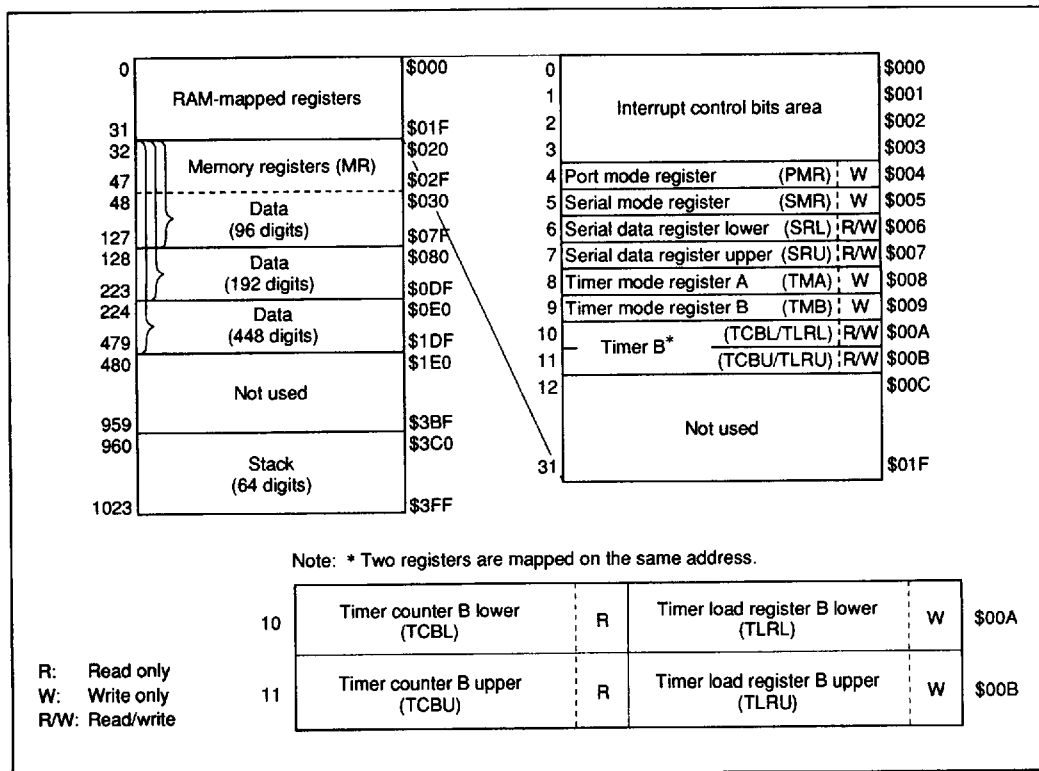

Figure 2 RAM Memory Map
The MCU also contains the following RAM size shown in table 2 as the data and stack area. In addition to these areas, interrupt control bits and special function registers are also mapped on the RAM memory space. The RAM memory map (figure 2) is described in the following paragraphs.
**Special Function Registers Area (\$004 to \$00B):** The special function registers are the mode or data registers for the external interrupt, the serial interface, and the timer/counters. These registers are classified into three types: write-only, read-only, and read/write, as shown in figure 2. These